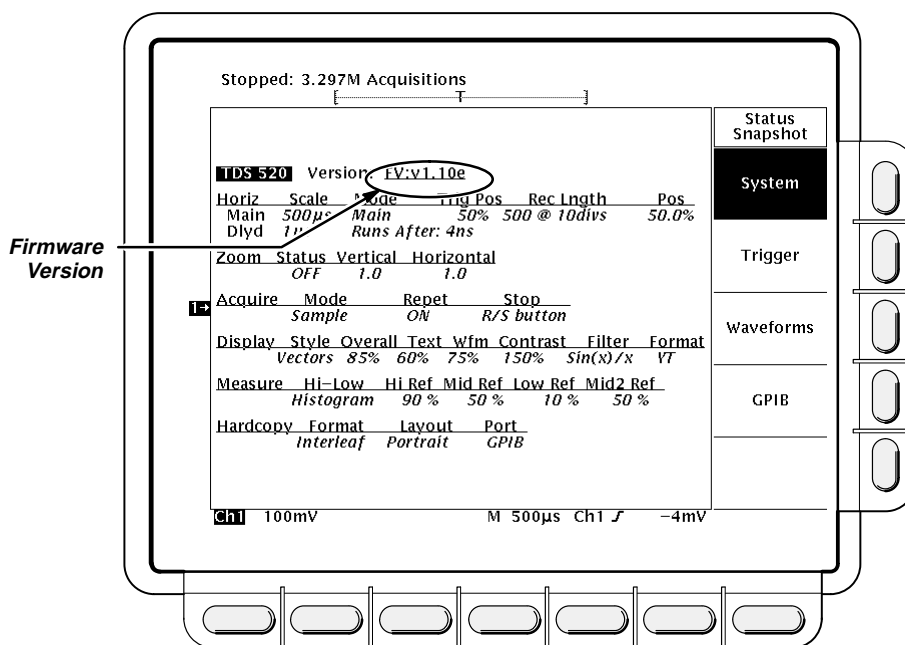

Figure 3-58: Status Menu—System
- **System** displays information about the Horizontal, Zoom, Acquisition, Display, Measure, and Hardcopy systems (Figure 3-58). This display also tells you the firmware version.